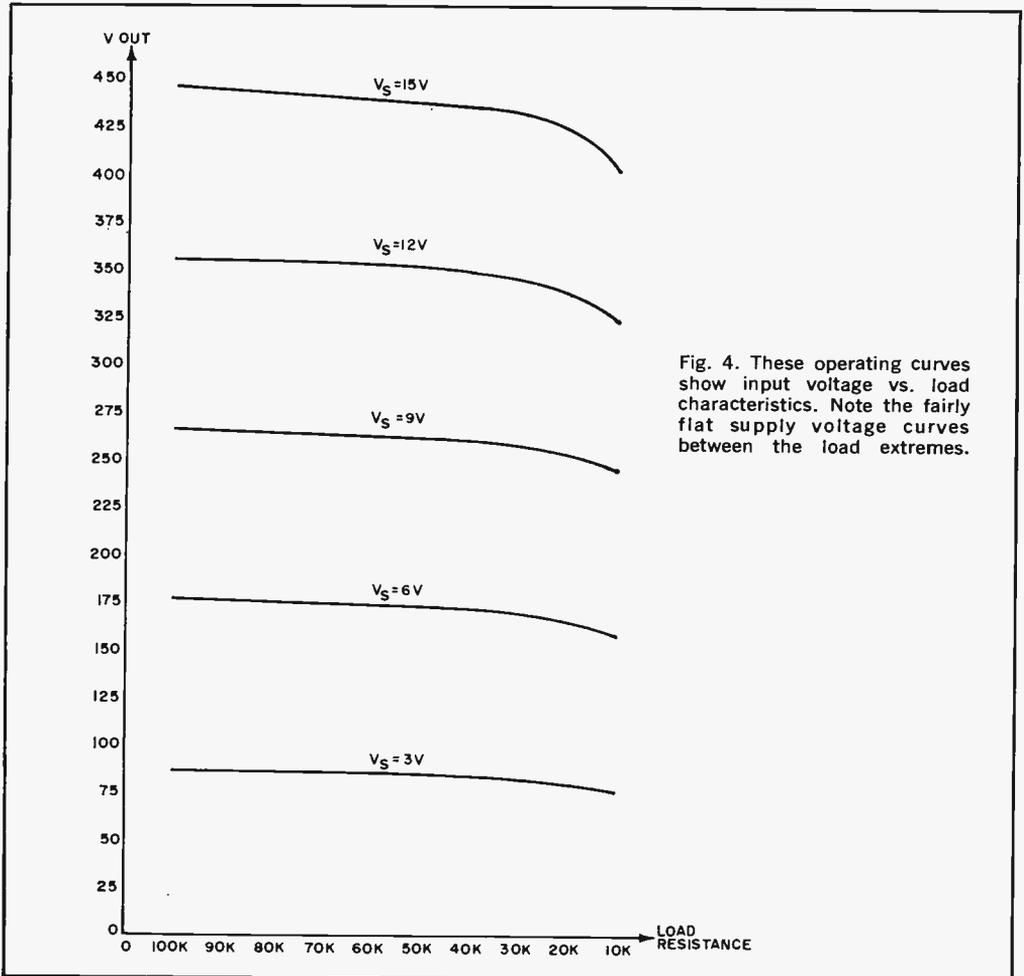

Fig. 4. These operating curves show input voltage vs. load characteristics. Note the fairly flat supply voltage curves between the load extremes.
**How To Use.** As can be seen from Fig. 4, the output of the d.c. transformer starts to drop at any voltage with a